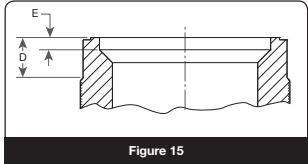

Figure 15
- b. The use of a reseating machine is suggested for reconditioning badly worn seats, or for re-establishing Dimension E per Figure 15. Dimension E should be re-established when it is less than .010" (0.25 mm) for orifices 1, 2, 3, 5 and 4; and less than .030" (0.76 mm) for orifices 6 and Q.